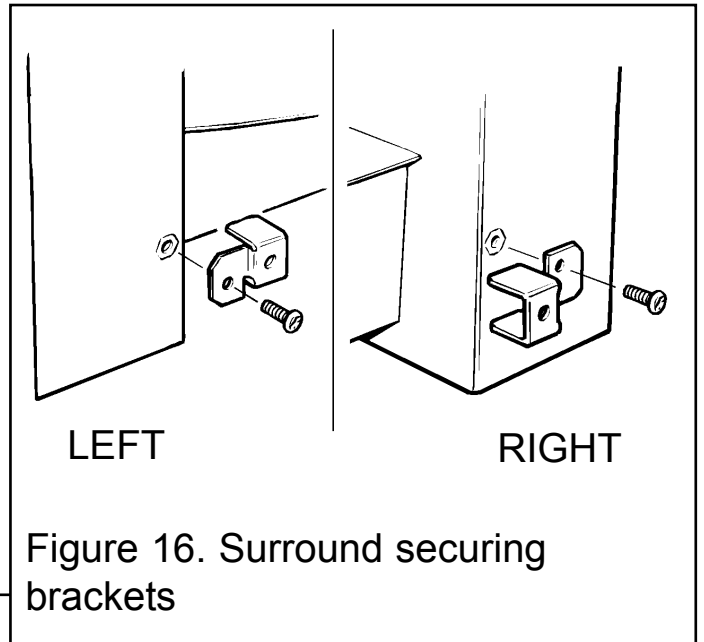

Figure 16. Surround securing brackets
**10.** Fit the two surround securing brackets to the convection box side flanges with the screws supplied. Note the different orientation of the brackets at left and right sides (See figure 16)